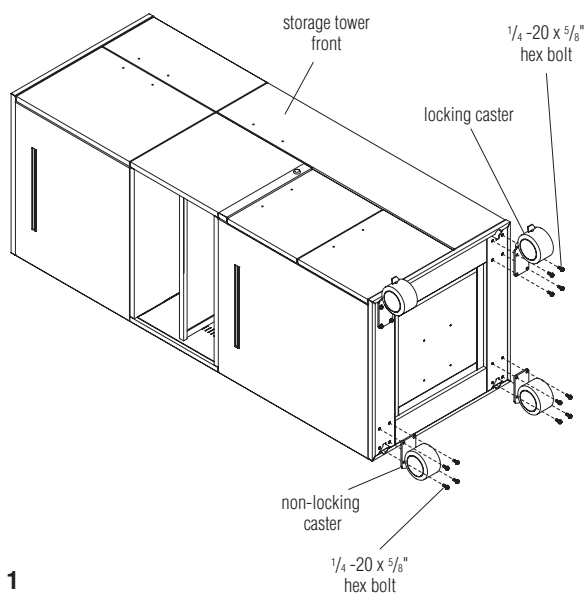

Figure 1
3. Position the casters as illustrated with the locking casters to the front of the storage tower. Secure each caster to the underside of the tower with four 1/4-20 x 5/8 inch hex head bolts (Figure 1).
4. Gently raise the cabinet to it's upright position onto the casters (Figure 1).